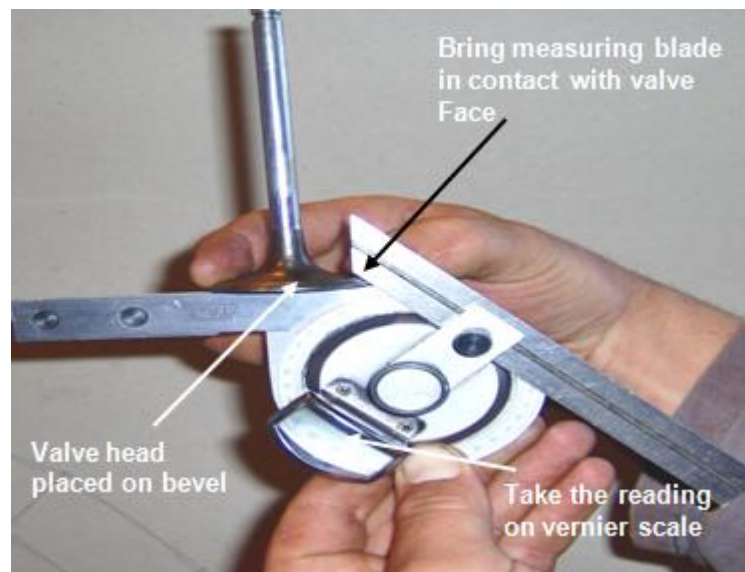

Fig.29
- Check the following dimensions of the valve head and compare them with the specifications in the Workshop Manual (Fig. 29):